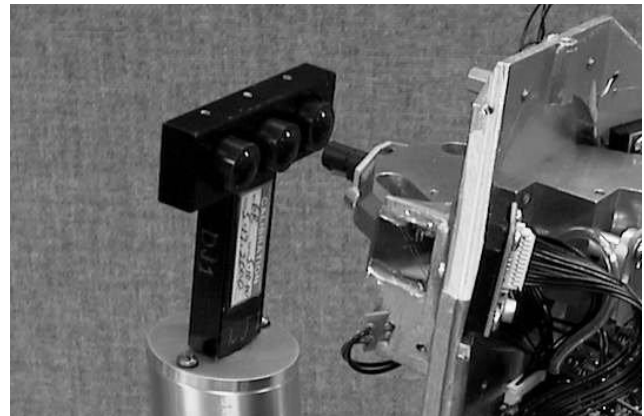

Figure CT-8. Rubber Eye Fixture
2. Install your calibrated set of rubber eyes onto the rubber eye stand and align the middle rubber eye in front of the air-puff nozzle approximately 0.5 to 1.0 inches (1.3 to 2.5 cm) from the end of the nozzle. Refer to Figure CT-8.